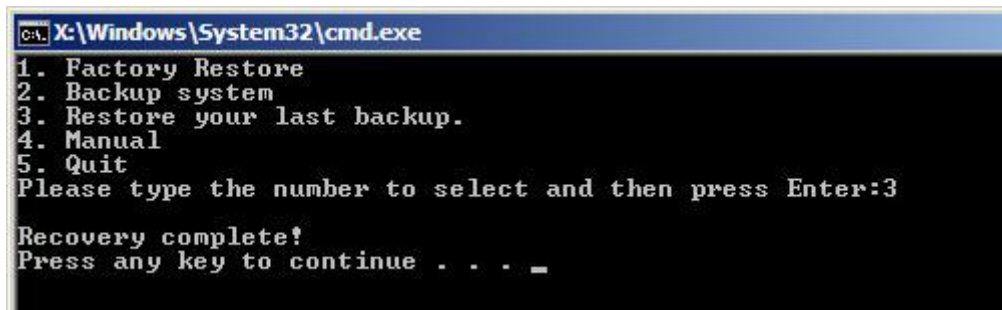

Figure C-39: Restore System Backup Complete Window
Step 3: The screen shown in **Figure C-39** appears when backup recovery is complete. Press any key to reboot the system.